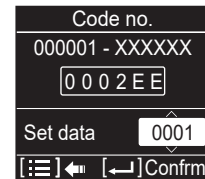

Fig. 4-12-3-9
(6) If the  button is pressed under the display Step (3) the following display (Detailed setting-end screen) (Fig. 4-12-3-10) appears.